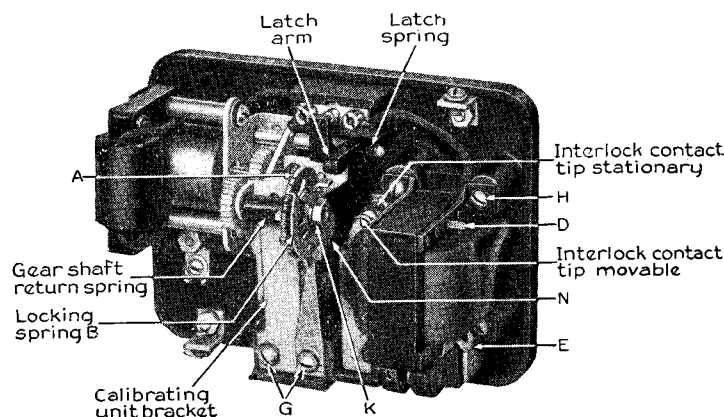

FIG. 2—RELAY WITH COVER REMOVED
The KU-11 and KU-12 definite time relay is used to give time-delayed operation of contactors or other similar devices. The relay is suitable for use on alternating current only, since the timing motor is a small self-excited synchronous motor. The relay is operated by a solenoid. When the solenoid is energized, the correct voltage is supplied to the timing motor from a tap on the solenoid coil. The timing motor delays the operation of the main contacts for a definite interval. The time setting is obtained by turning the calibrating disc (A), Fig. 2, so that the pointer stands at the time interval